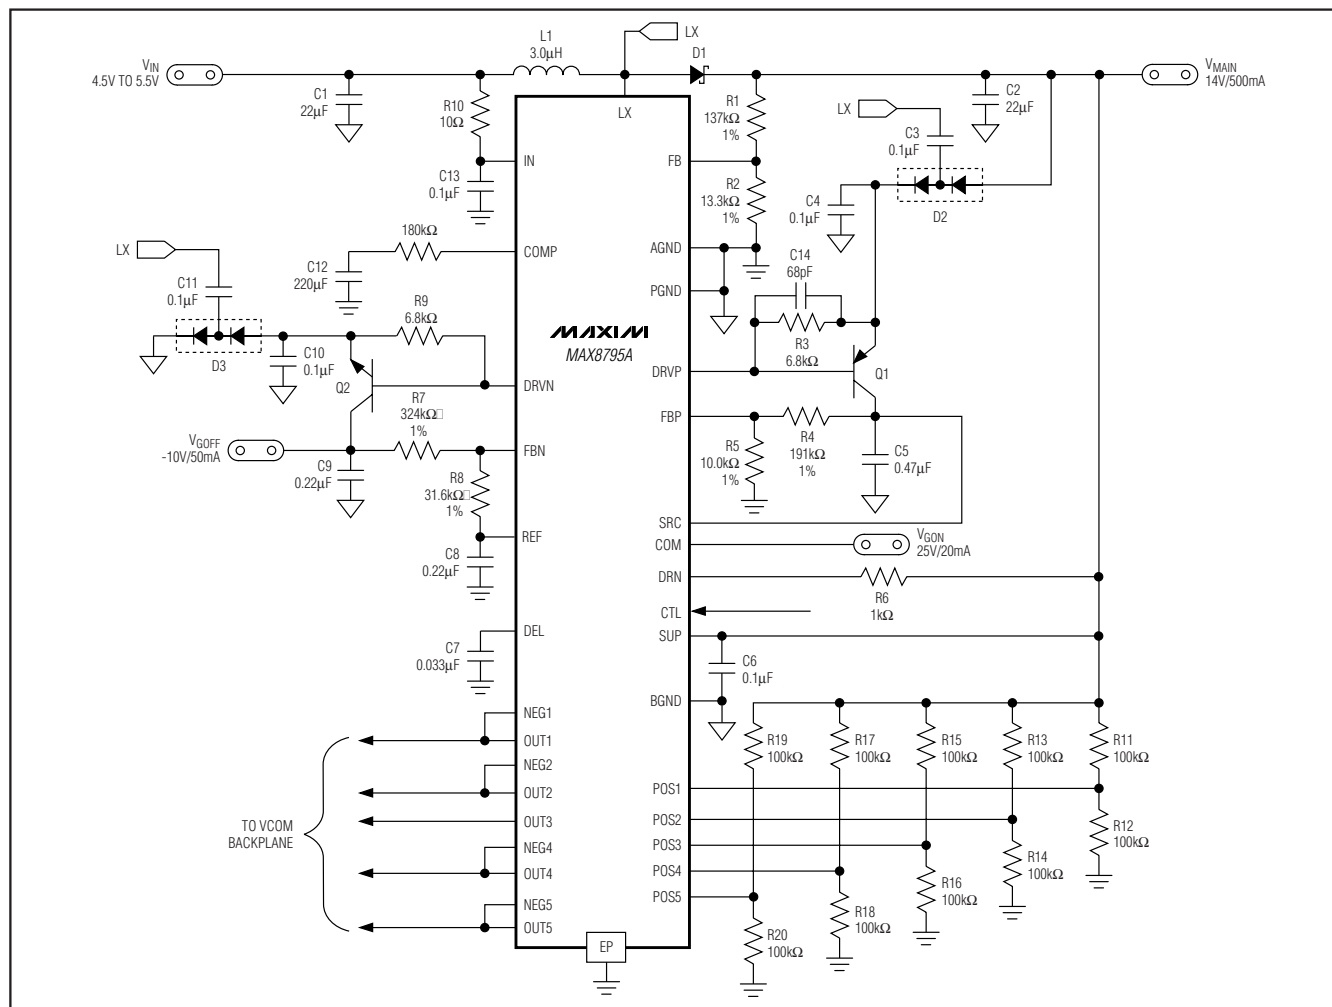

Figure 1. Typical Operating Circuit
(Circuit of Figure 1, $V_{IN} = 5V$, $V_{MAIN} = 14V$, $V_{GON} = 25V$, $V_{GOFF} = -10V$, $T_A = +25^\circ C$, unless otherwise noted.)
The MAX8795A typical operating circuit (Figure 1) is a complete power-supply system for TFT LCDs. The circuit generates a +14V source-driver supply and +25V and
-10V gate-driver supplies. The input voltage range for the IC is from +2.5V to +5.5V. The listed load currents in Figure 1 are available from a +4.5V to +5.5V supply. Table 1 lists some recommended components, and Table 2 lists the contact information of component suppliers.
The gate-on linear-regulator controller (REG P) is an analog gain block with an open-drain n-channel output. It drives an external pnp pass transistor with a 6.8k Ω base-to-emitter resistor (Figure 1). Its guaranteed base-drive sink current is at least 1mA. The regulator including Q1 in Figure 1 uses a 0.47 μ F ceramic output capacitor and is designed to deliver 20mA at 25V. Other output voltages and currents are possible with the proper pass transistor and output capacitor. See the *Pass-Transistor Selection* and *Stability Requirements* sections.
The gate-off linear-regulator controller (REG N) is an analog gain block with an open-drain p-channel output. It drives an external npn pass transistor with a 6.8k Ω base-to-emitter resistor (Figure 1). Its guaranteed base-drive source current is at least 1mA. The regulator including Q2 in Figure 1 uses a 0.47 μ F ceramic output capacitor and is designed to deliver 50mA at -10V. Other output voltages and currents are possible with the proper pass transistor and output capacitor (see the *Pass-Transistor Selection* and *Stability Requirements* sections).
REG N is typically used to provide the TFT-LCD gate drivers' gate-off voltage. A negative voltage can be produced using a charge-pump circuit as shown in Figure 1. REG N is enabled after the voltage on REF exceeds 1.0V. Each time it is enabled, the control goes through a soft-start routine that ramps down its internal reference DAC from VREF to 250mV in 128 steps.